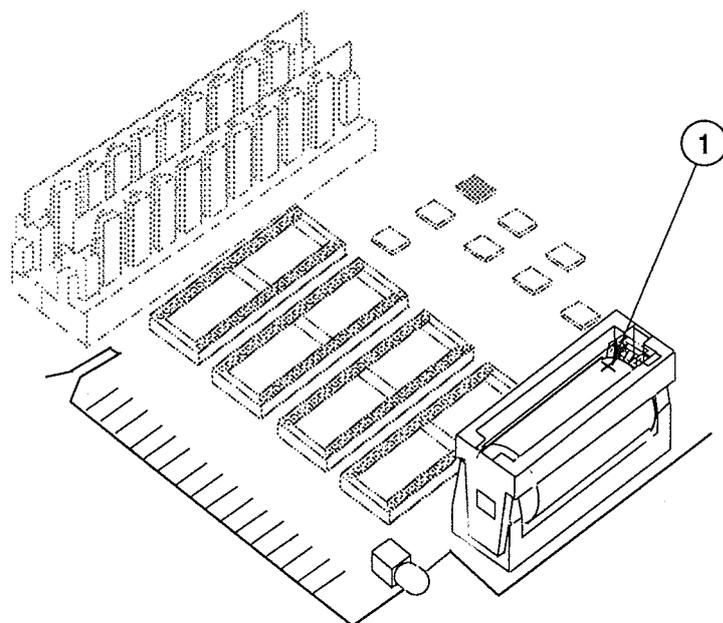

FIGURE 2
5. Touch and hold the **positive probe** of the voltmeter to the **positive side** of the battery (Figure 2, #1).